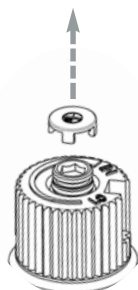

Fig. 1
- 8) Remove the Hi/Low extension knob by pulling it towards you. This will expose the black protection cap. Remove the black protection cap by hand from the high-low knob (Fig. 1).